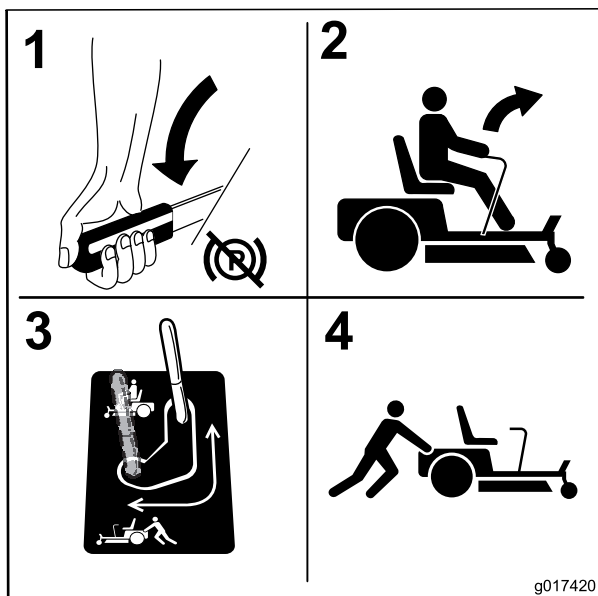

Figure 28
3. To push the machine, move the bypass levers rearward and out to lock them in place as shown in Figure 28. Repeat this on each side of the machine.
5. To run the machine, move the bypass levers to the forward position (Figure 28).